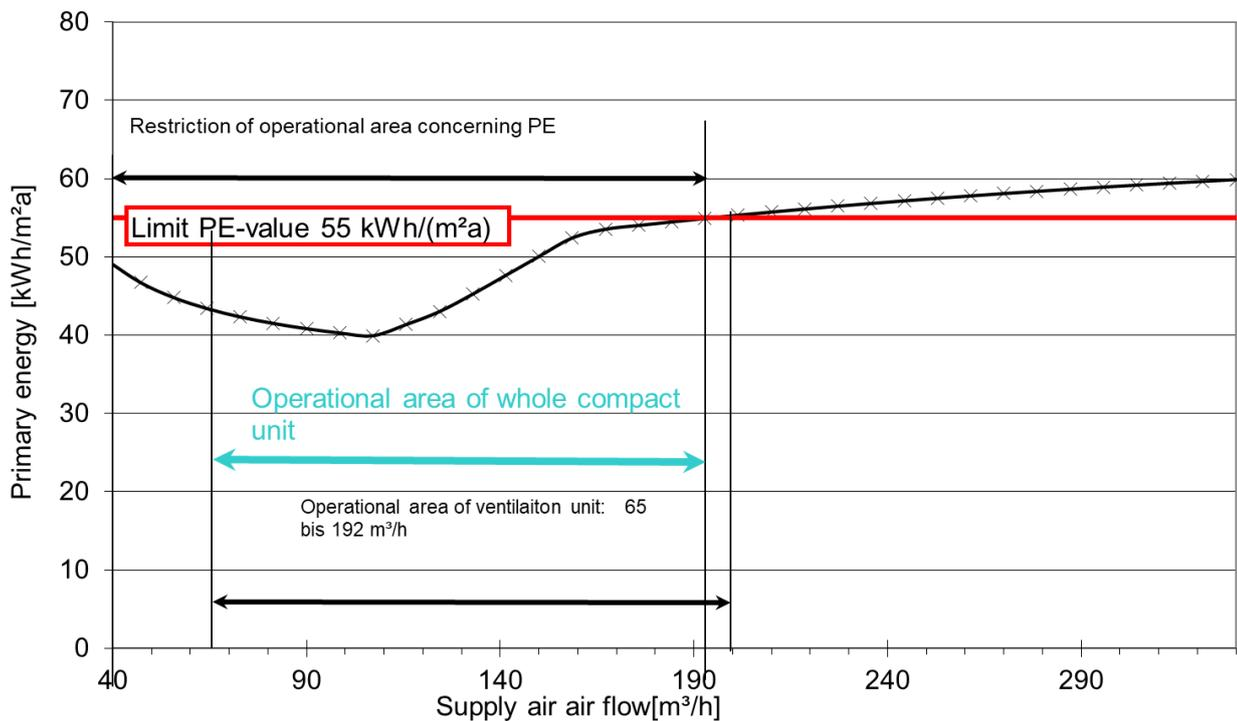

Figure 6: Operational range of recoCOMPACT 5kW (without SHX)
**recoCOMPACT 5kW:** SPF (without SHX) = 1.4, PE-value (without SHX)= 47.1 kWh/m2a. (Figure 6)